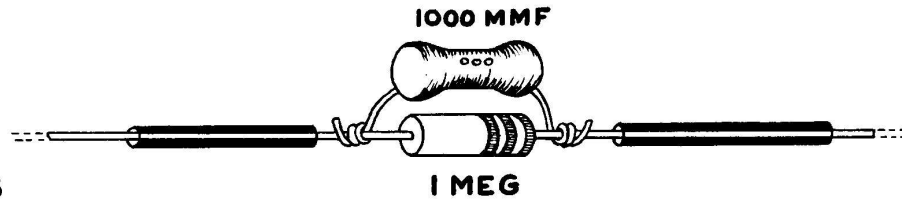

Figure 5
- ( ) Connect a 1 megohm resistor (brown-black-green) and a 1000  $\mu\mu\text{f}$  condenser (brown-black-red) together by wrapping the condenser leads around the resistor leads next to the resistor body ends. Solder both ends. See Figure 5.